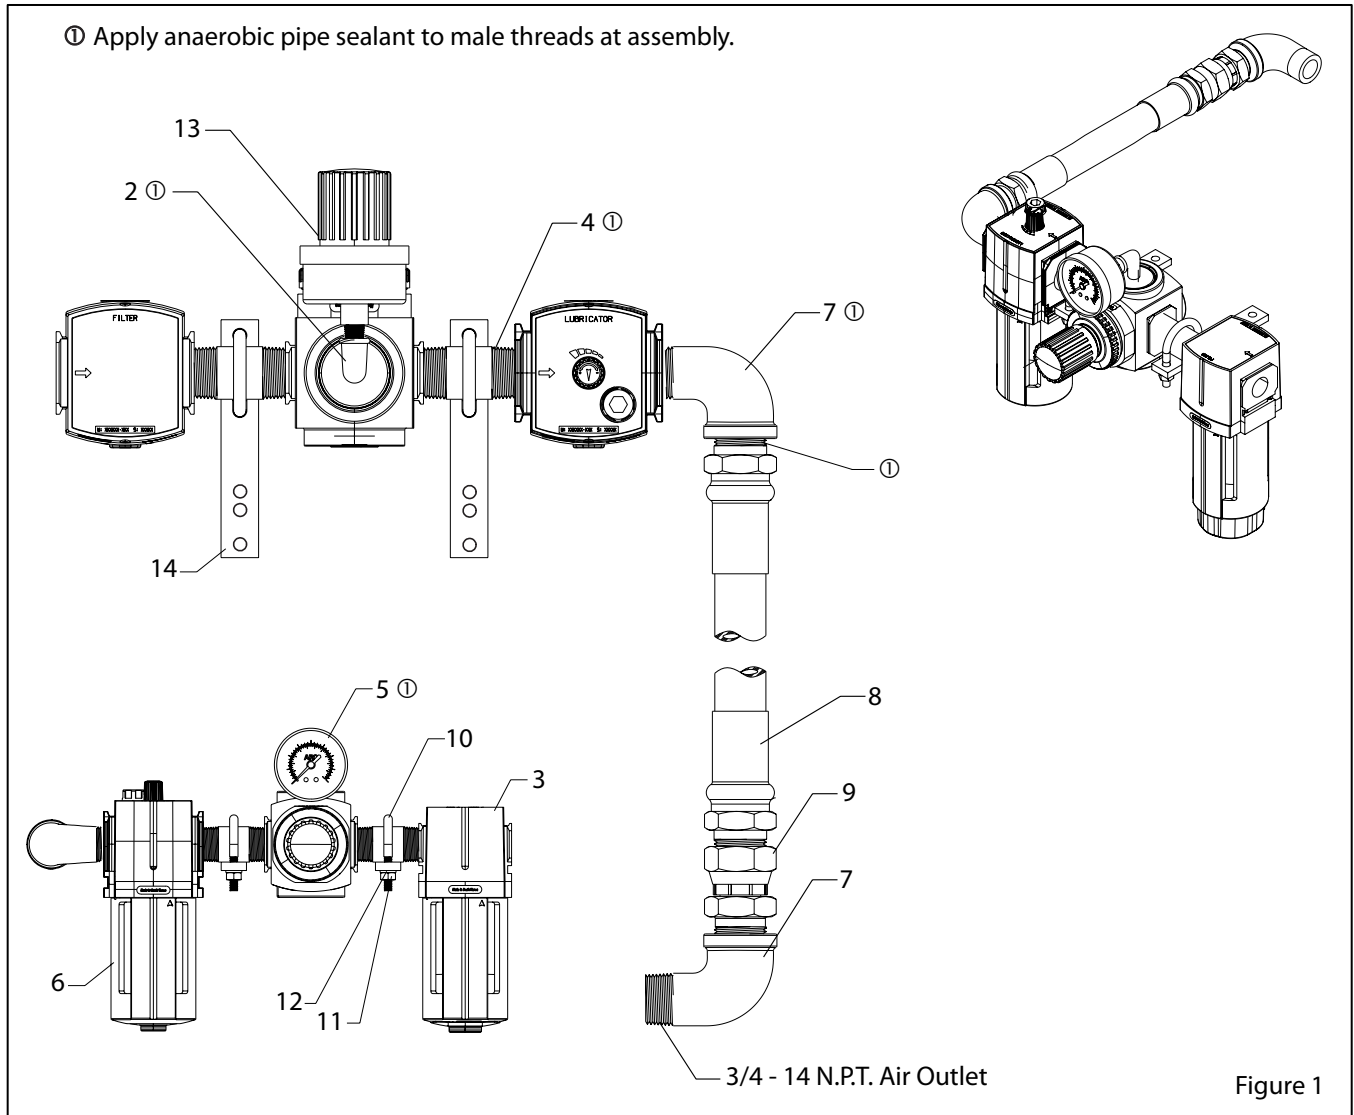
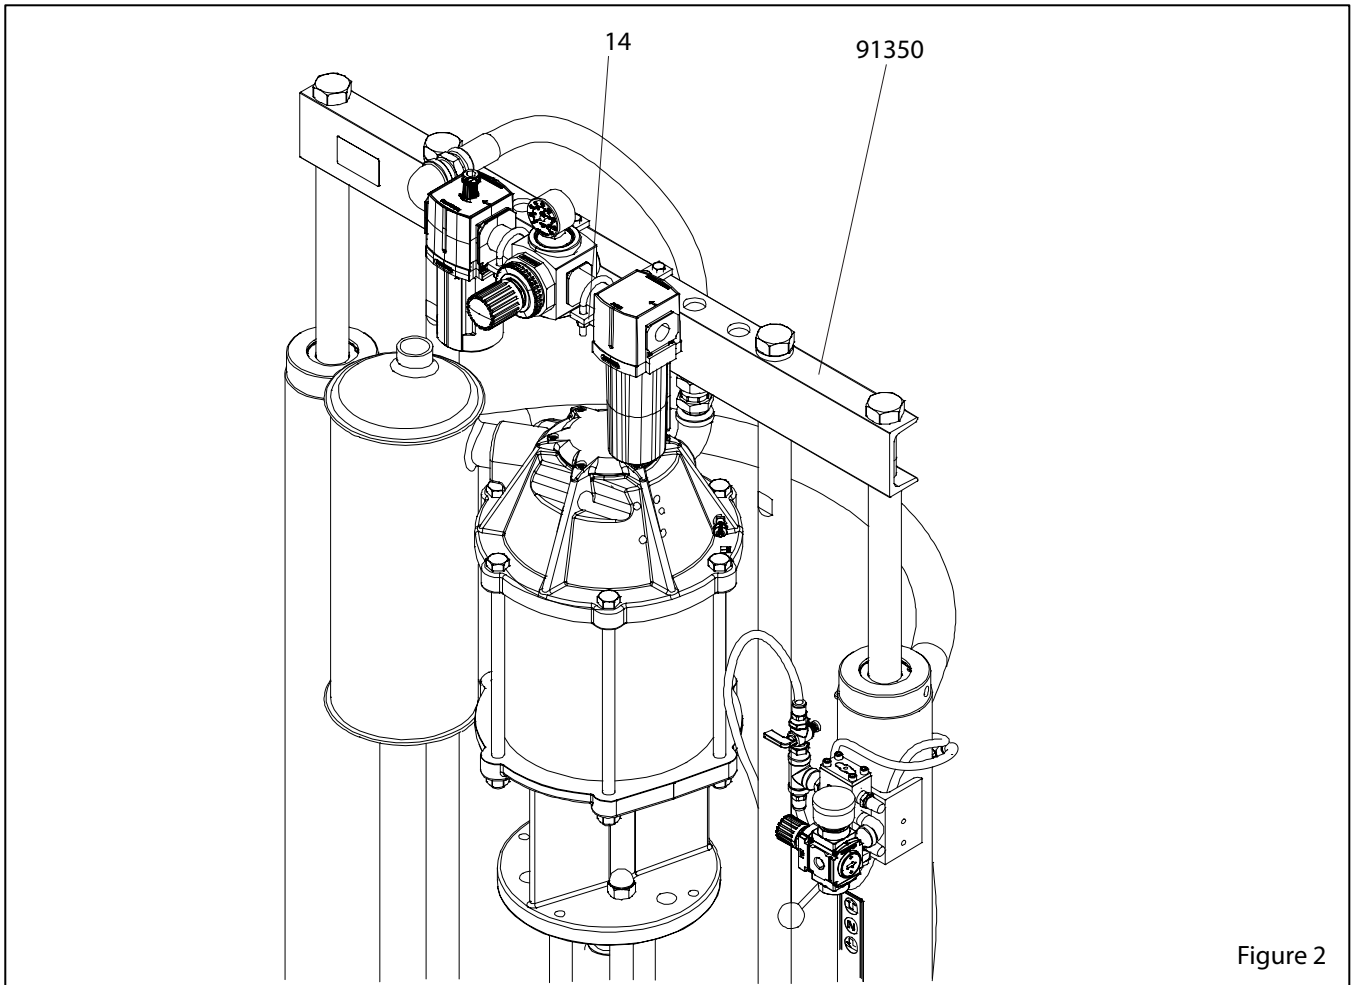

Figure 1
Figure 2
1. Position the two (14) mounting plates on the two post lift mounting arm (see figures 2 and 3).
2. Using four (15) cap screws and four (12) lock washers, fasten the mounting plates to the four holes located on the top of the mounting arm.
3. Place the air manifold assembly on the mounting plates and secure using two (10) "U" bolts, four (12) lock washers and four
(11) nuts (see figures 1 and 2).